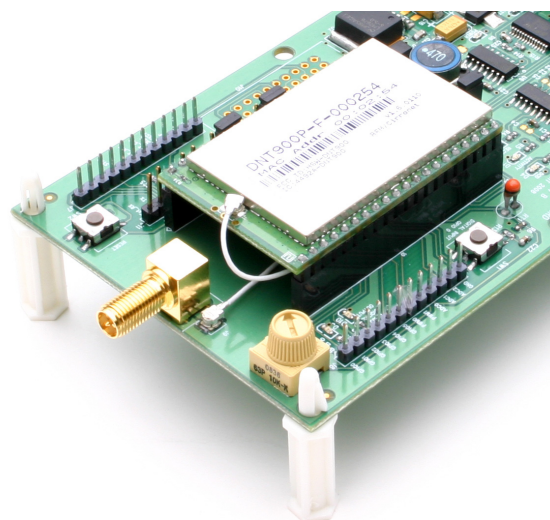

Figure 2
2. As shown in Figure 2, confirm each DNT900P is correctly plugged into an interface board, with the radio oriented so that its U.FL connector is next to the U.FL connector on the interface board. Check each radio's alignment in the socket on the interface board. No pins should be hanging out over the ends of the connector.